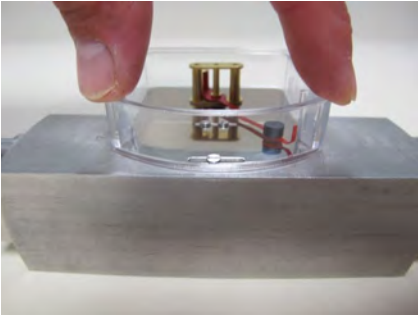

Fig. 63
14. ➤ Place the plastic housing on the display base plate and press down until it snaps into place (Fig. 63)